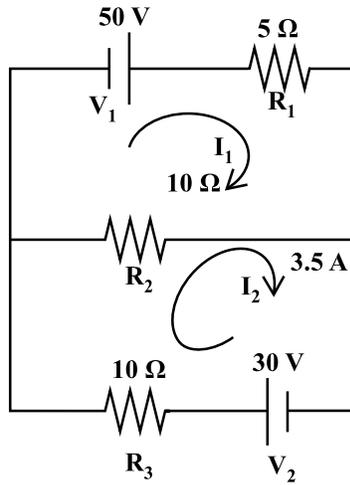

Figure 4. Mesh network with two voltage sources
- (iii) Figure 4 shows a mesh network with two voltage sources. The current in loop 2 is 3.5 A.